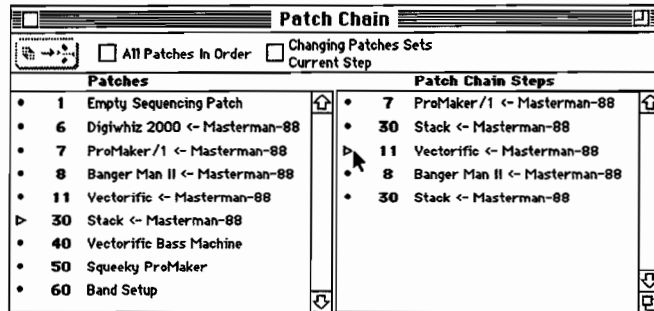

Figure 9-13: Copying a Patch Chain Step
- Copy a Patch Chain Step to the Clipboard as shown in Figure 9-13.